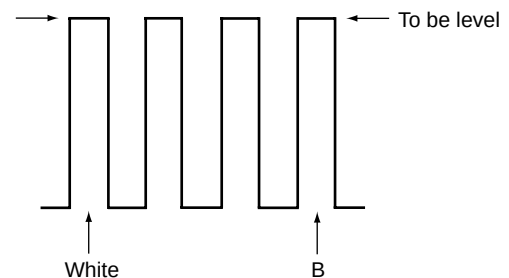

Fig. 3-4
6. Adjust the COMPONENT B-Y so that the TP503 (B IN) level and the B level will be the same. (Fig. 3-4)